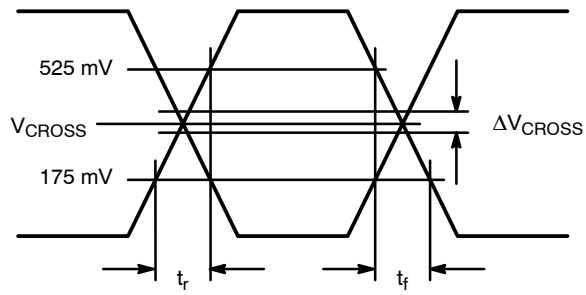

Figure 4. HCSL Output Parameter Characteristics
**HCSL OUTPUTS** (Figure 4)
| $\Delta t_r$ , $\Delta t_f$            | Variation in Magnitude of Risetime and Falltime (Single-Ended) (See Figure 4) $Q_x$ , $\overline{Q_x}$   |     |                   | 125150            | ps                   |